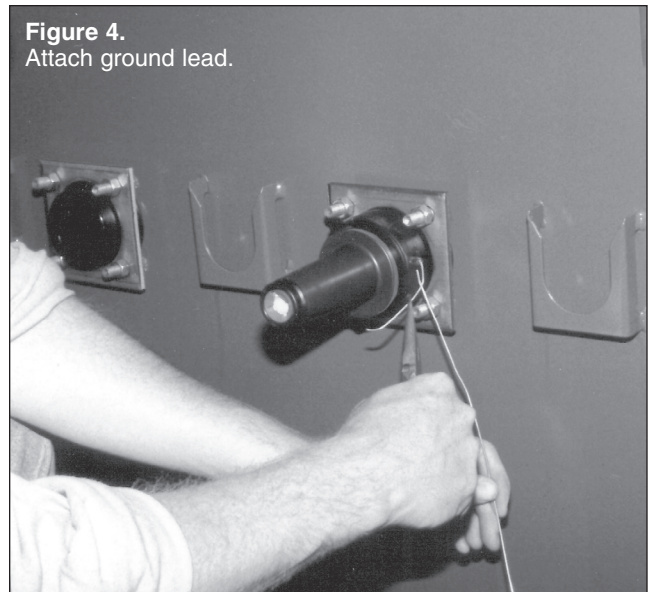

Figure 4.
- Attach other end of wire to ground. (See Figure 4.)